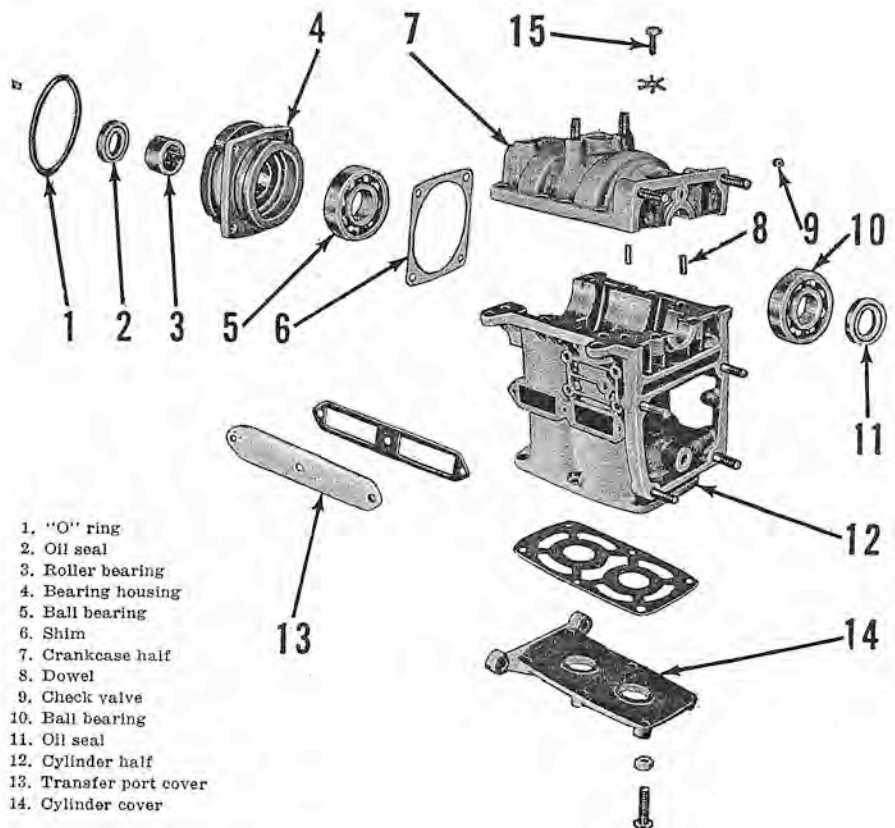

Fig. M34—Exploded view of powerhead crankcase and associated parts.
Remove the capscrews which retain upper end cap (4—Fig. M34) to power head, remove center main bearing locking screw (15); then unbolt and remove crankcase front half (7). **NOTE:** A special recess is located at the center on each side of crankcase half (7). Loosen the crankcase by carefully prying at these points ONLY with a screwdriver. Use extra care not to spring the parts or to mar the machined, mating surfaces. Crankcase half (7) and cylinder (12) are matched and align bored, and are available only as an assembly.
Make sure the center main bearing dowel (6—Fig. M35) is in place and that main bearing (5) is properly located over dowel. Assemble the upper main bearing cap (4—Fig. M34) and install over crankshaft using the shim pack (6) which was removed. Install and tighten the two cap screws which retain the cap to cylinder block, tap the crankshaft back and forth using a soft mallet, then measure the gap between bearing (5) and the crankshaft. The clearance should be 0.008-0.012. If it is not, remove the end cap and vary the thickness of shim pack (6) until the proper end play is obtained. Shims are available in thicknesses of 0.002, 0.003, 0.005 and 0.010.